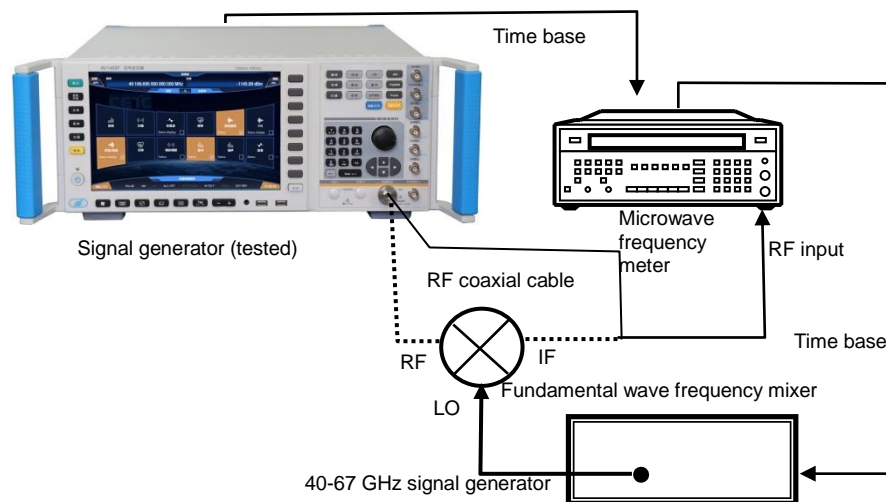

Figure 8.1 Frequency Range Test Block Diagram
**Step 2. Connect the device as shown in Figure 8.1.**